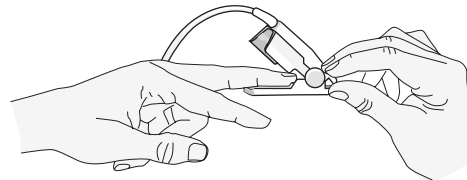

Figure 2
- Place the selected digit over the sensor window of the reusable sensor. The fleshiest part of the digit should cover the detector window in the lower half of the sensor (see Figure 2).